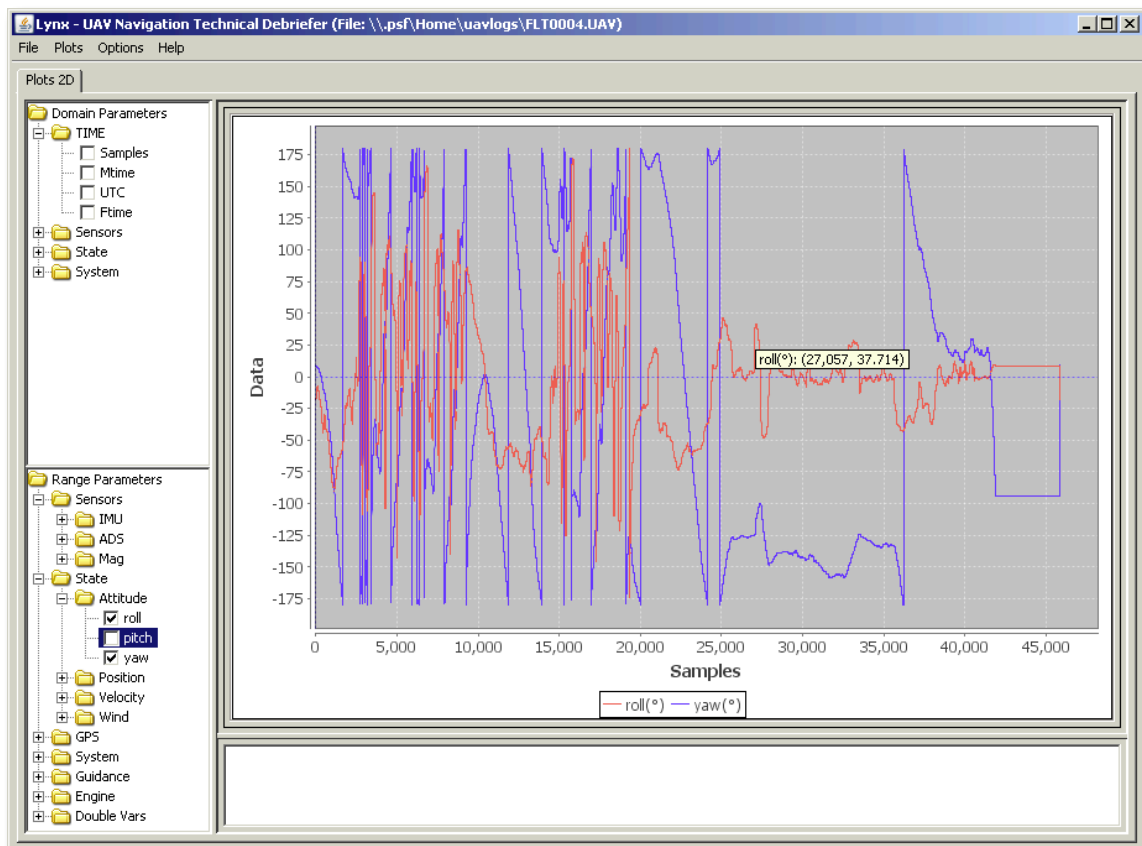

Figure 7
- In figure 7 the parameter **pitch** is deselected leaving the chart with **roll** and **yaw** curves and also another tooltip is shown on a different part of the plot.
- Suppose the chart in figure 7 is interesting and we want to compare against other flight parameters of the log file, the chart can be kept in the next three ways: